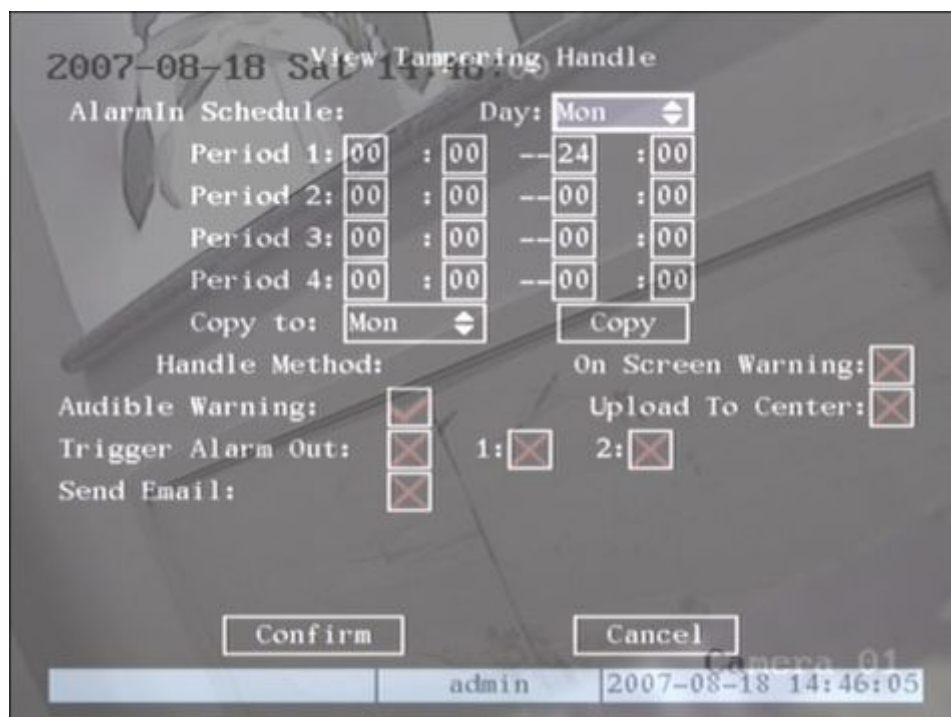

Fig 5.15 View tampering handle setup
**Step 5: View tampering alarm setup** In “Advanced settings” menu, move “Active Frame” to “Policy” button, press **【ENTER】** key to enter into “View Tampering Handle” menu shown as fig 5.15